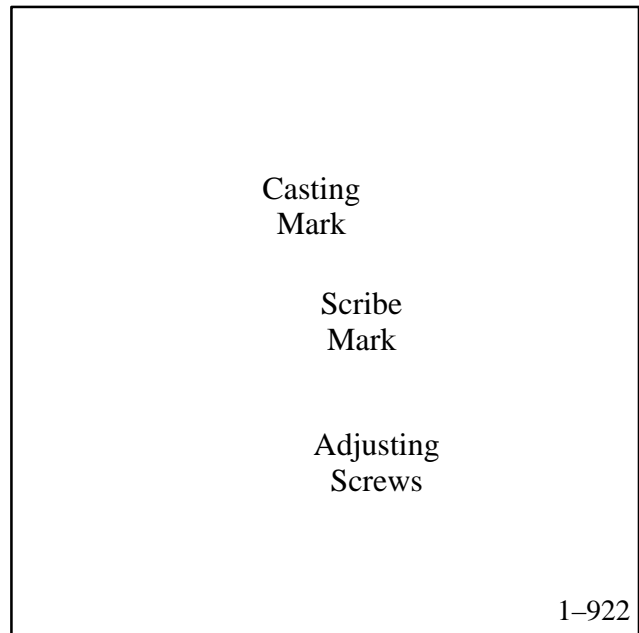

Figure 3. Typical Choke Adjustment Location
1. Where the choke casting mark meets the black plastic cover of the choke, make a scribe mark on the choke's black cover. See Figure 3.